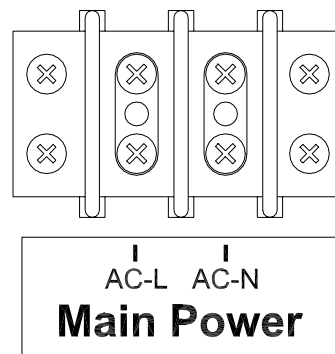

Figure 9 Power Connections
3. Connect the AC line wire and AC neutral wire to the **Main Power** terminal block on the junction chassis according to Figure 9.